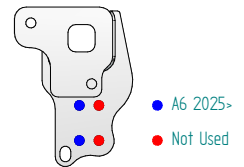

Figure 3
8. Remove the rear impact beam, seven fixings. **Note:** This is not refitted with the Towbar assembly. Replace the fixings into rear panel and as per **Figure 3** replace the offside upper inner fixing into the rear panel using item **H** with items **L** to prevent water ingress. Refit the **GSM** sensor bracket.